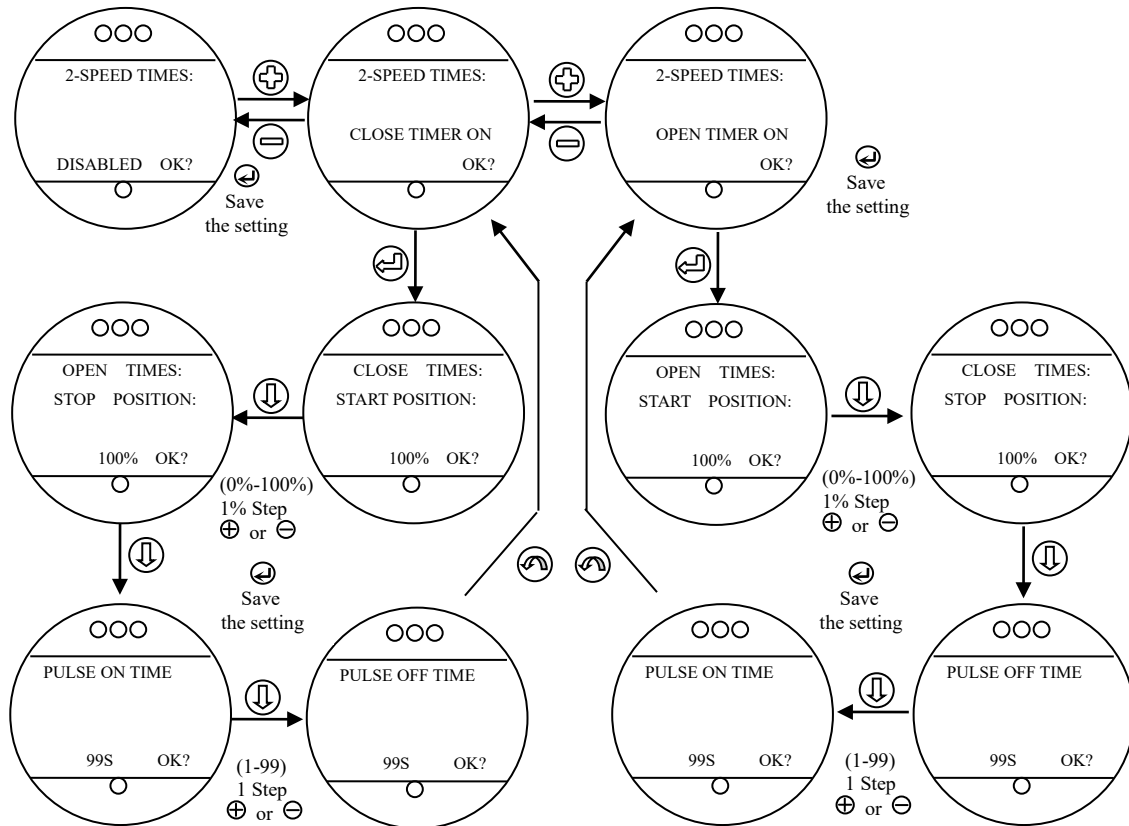

Fig. 4-12
1. Switch menu to “**ADVANCED CONTROL MODE: / 2-SPEED SETUP ?**”, see Fig. 4-12. Press “**↓**” to enter the routine procedure.